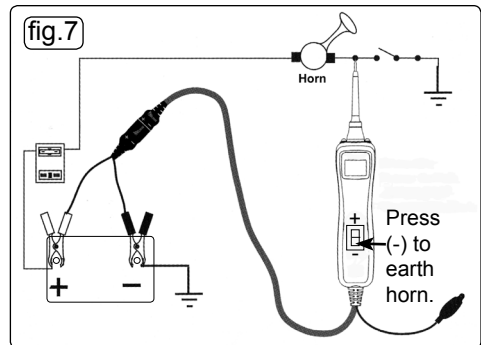

fig.7
3.10 Activating Electrical Components with Earth. See fig.7.